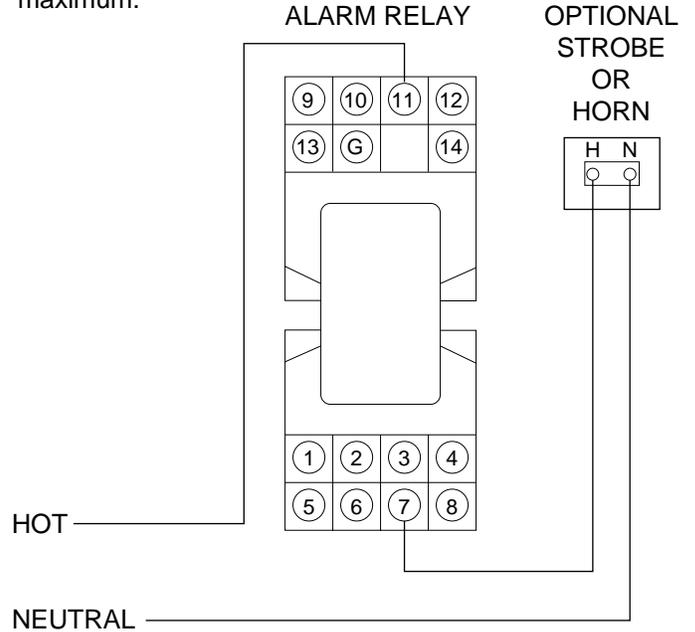

Fig. 3
Using customer supplied power, warning lights and or horns are to be connected in the manner shown (Fig. 3). Use an auxiliary contactor for heavy loads such as exhaust fans. Note: Alarm relay contacts are rated five (5) Amps maximum.